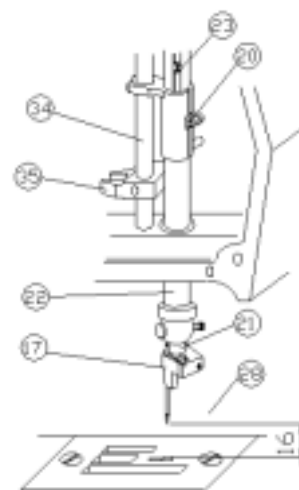

FIG.9
Unscrew completely the screw (20) of the guide clamp. Check that the inner rod (21) of the needle bar slides freely inside the outer bar (22) and if necessary realign the boss (23) so that there is no friction. FIG.9